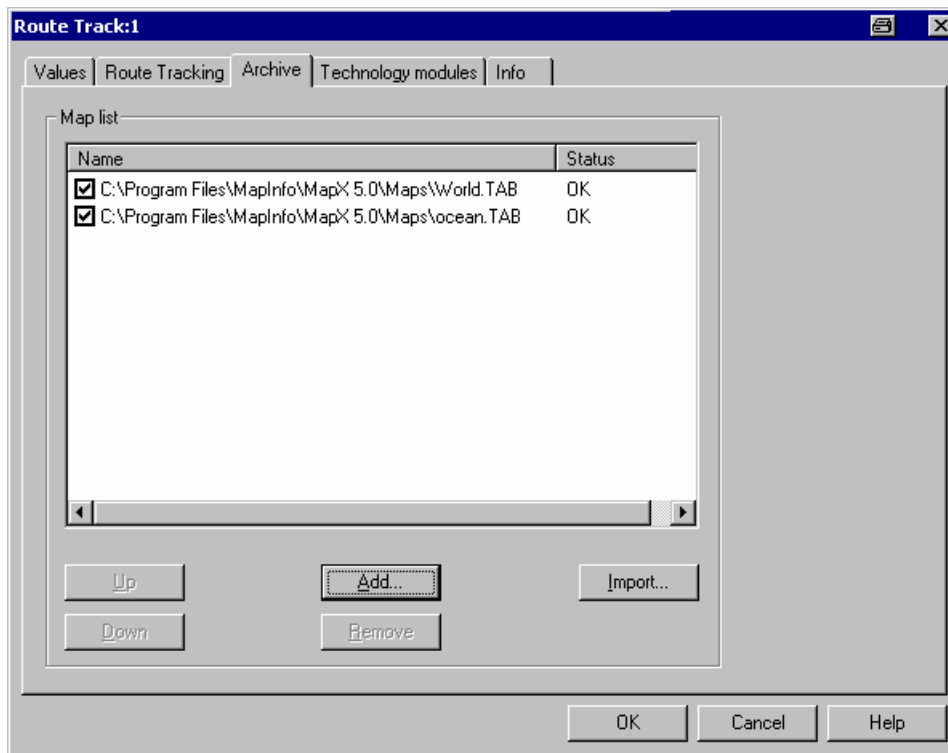

Fig. 4-27 Route Track configuration: Archive
Map of the explored area loaded as a file in one of the standard bitmap formats. Several overlapping or non-overlapping bitmaps can be collected in an archive and loaded simultaneously, see *Archive* tab in the configuration menu, Fig. 4-27. When loaded for the first time, a bitmap must be positioned onto the world map using one of the methods described below (see section Bitmap Handling and Positioning \(Calibration\) on page 4.46).
**Add** Calls up an *Open* file dialog to load a bitmap file. Valid bitmaps are in a standard bitmap format (see figure below). The geographic positioning information assigned to a bitmap is stored in a TAB file, i.e. a text file with the same name but with the extension (\*.tab). Instead of being added individually, several TAB files and the corresponding bitmaps can be stored in an archive and loaded together (see *Archive* tab in the configuration menu, Fig. 4-27).